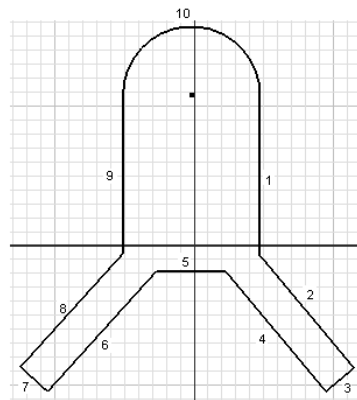

Figure 3-61 Initial sketch with the geometries numbered
- Choose **Line** from the **Draw** panel of the **Sketch** tab to draw the outer loop, as shown in Figure 3-61. As mentioned earlier, you should draw the inner loop after drawing and dimensioning the outer loop. This is because once the outer loop is dimensioned, you can draw the inner loop by taking the reference of the outer loop.
You can draw the arc while the **Line** tool is active. You can also use the temporary tracking option to draw this sketch. For your reference, the geometries in the sketch are numbered, see Figure 3-61.